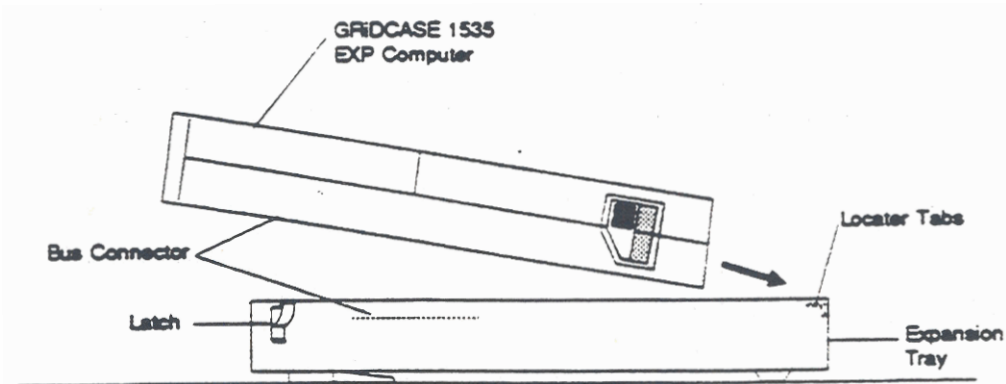

Figure 7-8. Attaching the Expansion Tray
6. Lower the keyboard end of the computer onto the expansion tray at about a 15° angle and slide it towards you until the locator tabs on the expansion tray slip into the matching slots on the computer (see Figure 7-8).